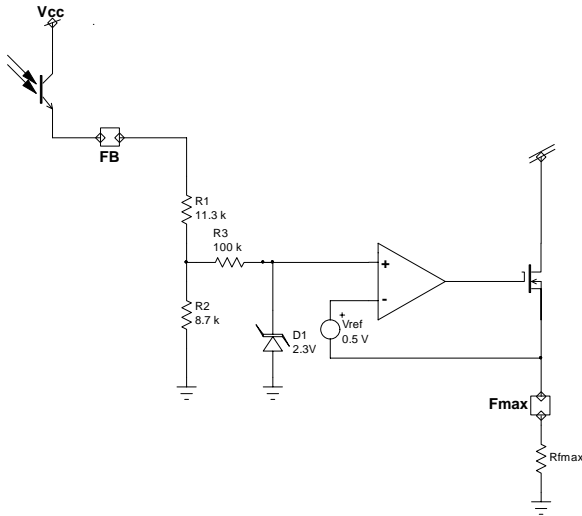

Figure 32. The OPAMP Arrangement limits the VCO modulation signal between 0.5 and 2.3V
The designer needs to program the maximum switching frequency and the minimum switching frequency. In LLC configurations, for circuits working above the resonant frequency, a high precision is required on the minimum frequency, hence the $\pm 3\%$ specification. This minimum switching frequency is actually reached when no feedback closes the loop. It can happen during the startup sequence, a strong output transient loading or in a short-circuit condition. By installing a resistor from pin 4 to GND, the minimum frequency is set. Using the same philosophy, wiring a resistor from pin 2 to GND will set the maximum frequency excursion. To improve the circuit protection features, we have purposely created a dead zone, where the feedback loop has no action. This is typically below 1.2 V. Figure 32 details the arrangement where the internal voltage (that drives the VCO) varies between 0 and 2.3 V. However, to create this swing, the feedback pin (to which the optocoupler emitter connects), will need to swing typically between 1.2 V and 5.3 V.
As shown on figure 32, the internal dynamics of the VCO control voltage will be constrained between 0.5 V and 2.3 V, whereas the feedback loop will drive pin 6 (FB) between 1.2V and 5.3 V. If we take the default FB pin excursion numbers, 1.2 V = 50 kHz, 5.3 V = 500 kHz,